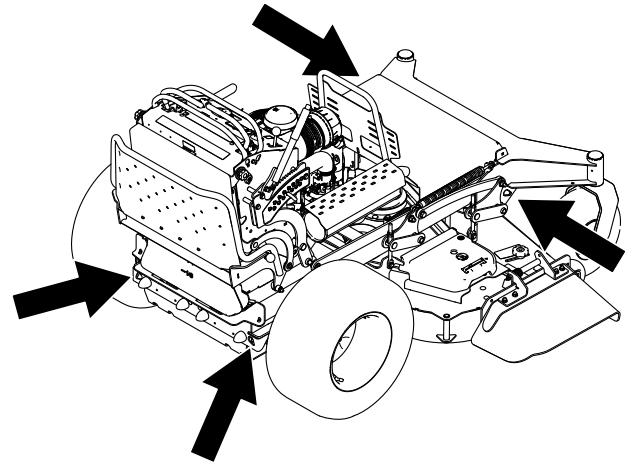

Figure 30
7. Tie down the machine near the front caster wheels, or front frame holes, and the rear bumper holes with straps, chains, cable, or ropes (Figure 30). Refer to local regulations for tie-down requirements.